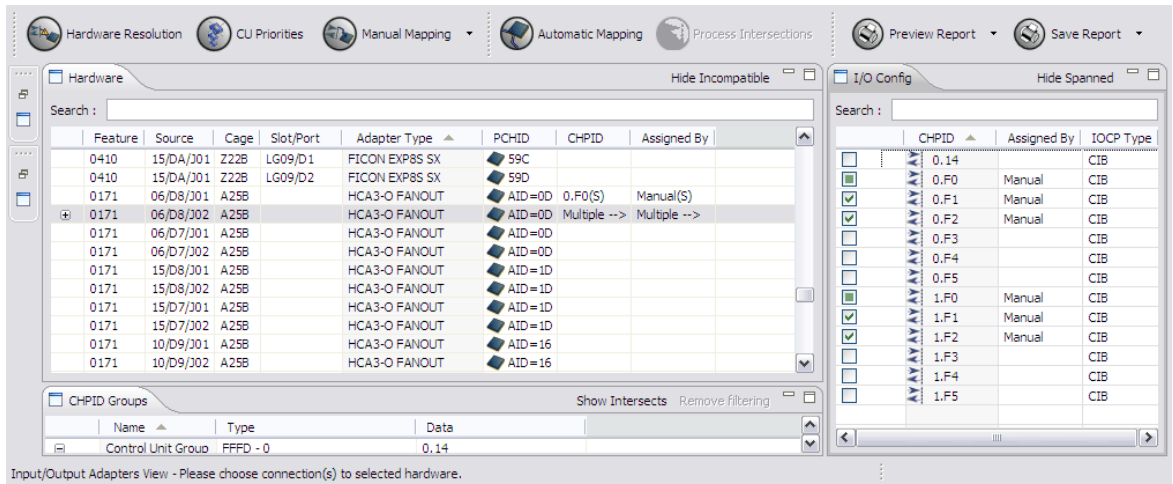

Figure 125. Clicking + displays additional details
- The first column of the Hardware pane has a box with a plus sign in it. Figure 125 on page 97 shows an example.